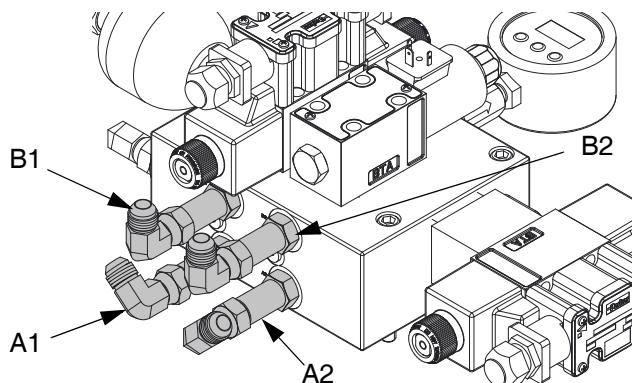

FIG. 6: L-Head Applicator Hydraulic Housing
- a. Connect the hydraulic hose fittings (A1, A2, B1, and B2) on the AC power pack to the ends of hydraulic hose (401) on the mast side of the boom (C) as listed in the table below. See FIG. 1, page 10 and FIG. 6, page 16.
- a. Connect the hydraulic hose fittings (A2 and B2) on the AC power pack to the ends of hydraulic hose (402) on the mast side of the boom (C) as listed in the table below. See FIG. 1, page 10 and FIG. 6, page 16.
- b. Use caps (6) to plug A1 and B1 fittings.